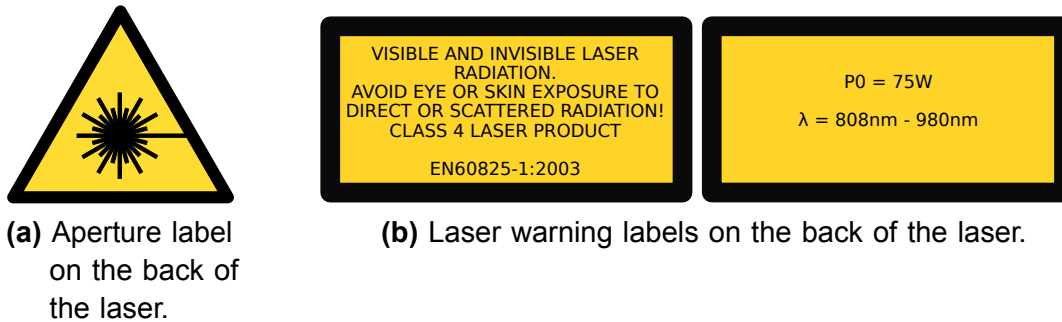

Figure 2.1: Examples for laser warning labels.
4. Be aware of the warning and safety labels (examples are shown in figure 2.1 on page 9).